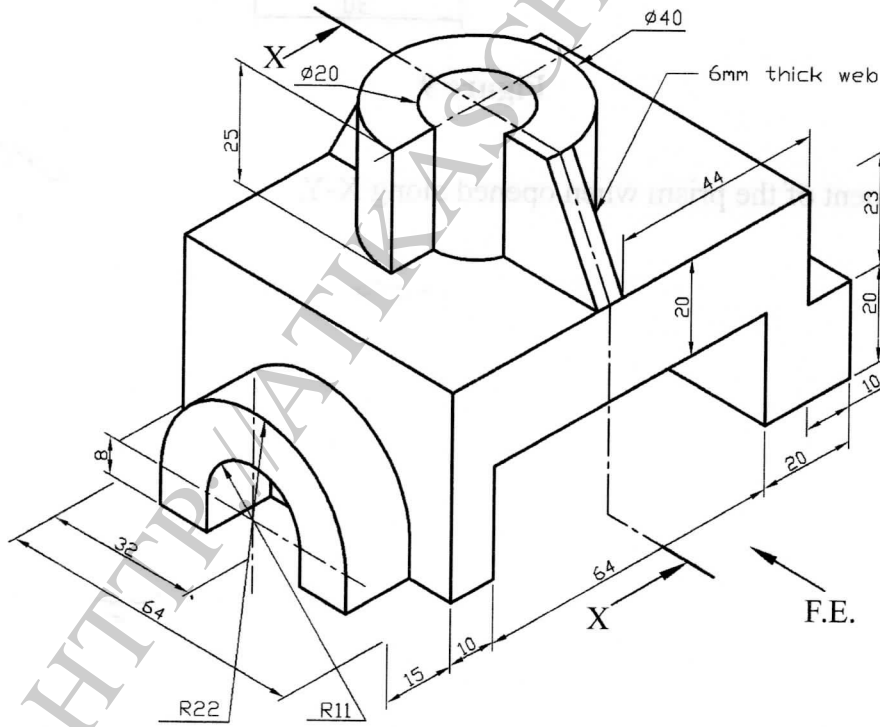

Figure 8
- 13 **Figure 8** shows a machine block drawn isometric projection.